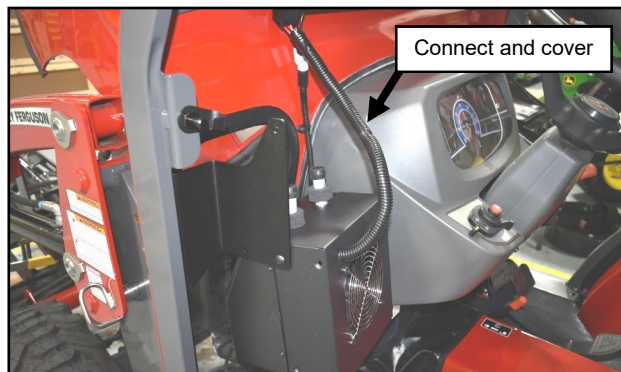

Fig. 17.2 (Mount and Wire Heater)
- 17.2 Attach the heater to the heater bracket by the lower existing screw only, so that it hangs upside down. See Figure 17.2. Connect the heater connectors to the main cab wiring harness. Cover any visible wires with the supplied 1/2" wire loom. Pivot the heater into place and connect the other screws. Tighten hardware.